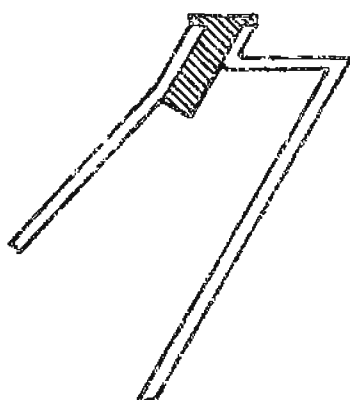

Fig.3
3. Using a pair of long-nosed pliers, fit the wedge into the outlet such that the sides of the outlet are held apart and the shoulders of the wedge sit on the edges of the ducting as shown in Figures 3 and 4.